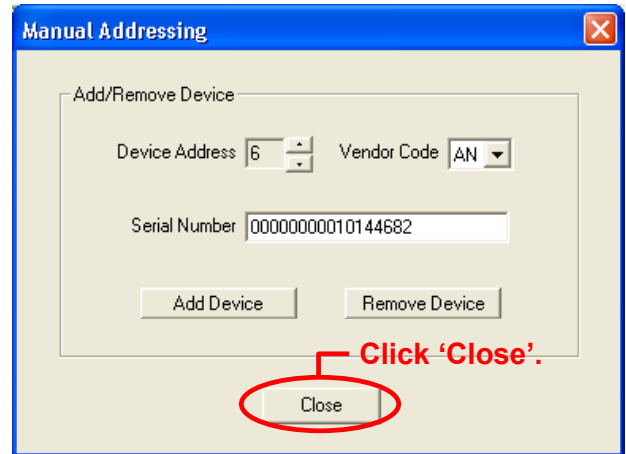

Figure 4-13. Closing 'Manual Addressing' Screen.
9. Click 'Close' (Figure 4-13).